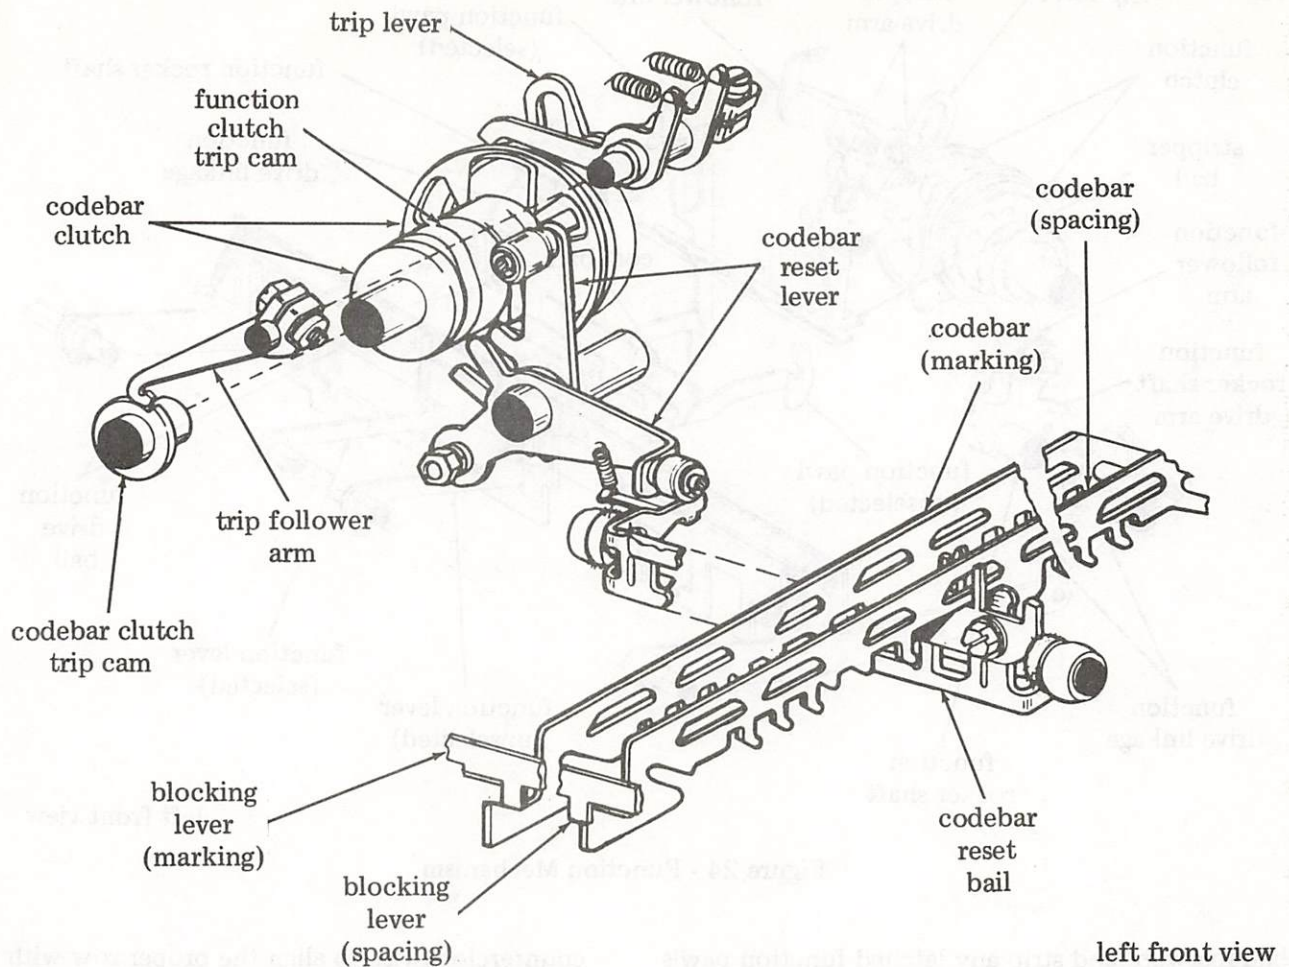

Figure 23 - Codebar Mechanism
codebar clutch controls the motion of the codebar reset bail. During the first portion of movement of the codebar reset clutch, the codebar reset bail rises. The codebars, under control of their individual springs, attempt to rise (Figure 23).
(spacing condition), it will engage the first projection on the codebar, and will not permit the codebar to rise (Figure 23).
4.90 The capability of two-color printing, red or black, is a mechanical function controlled by the "R" codebar shown in Figure 23. The "R" codebar is controlled by two functions for red and black printing; "ESCAPE" "3" effects red printing, and "ESCAPE" "4" effects black printing.